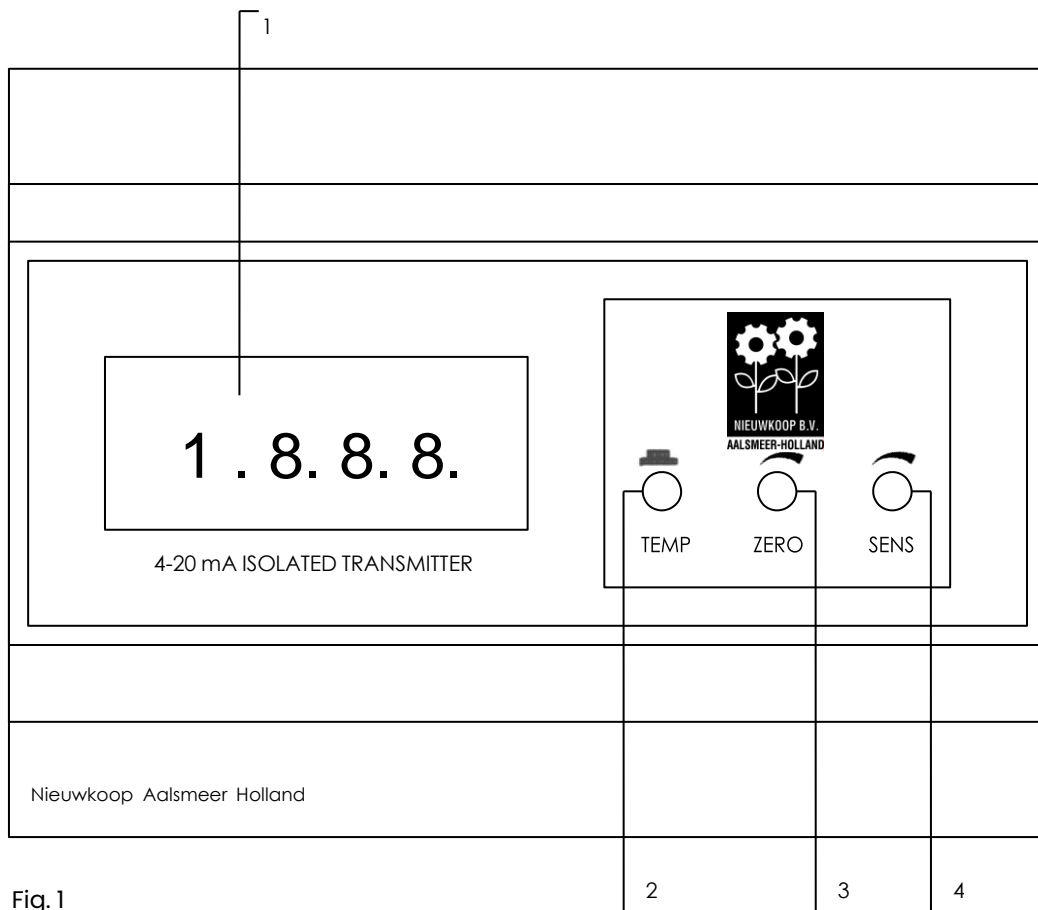

Fig. 1
- push the key pad "2" on the front panel (fig. 1) and adjust the trimmer "R5" marked "T MAN" to indicate the desired temperature value on the display (fig.3).